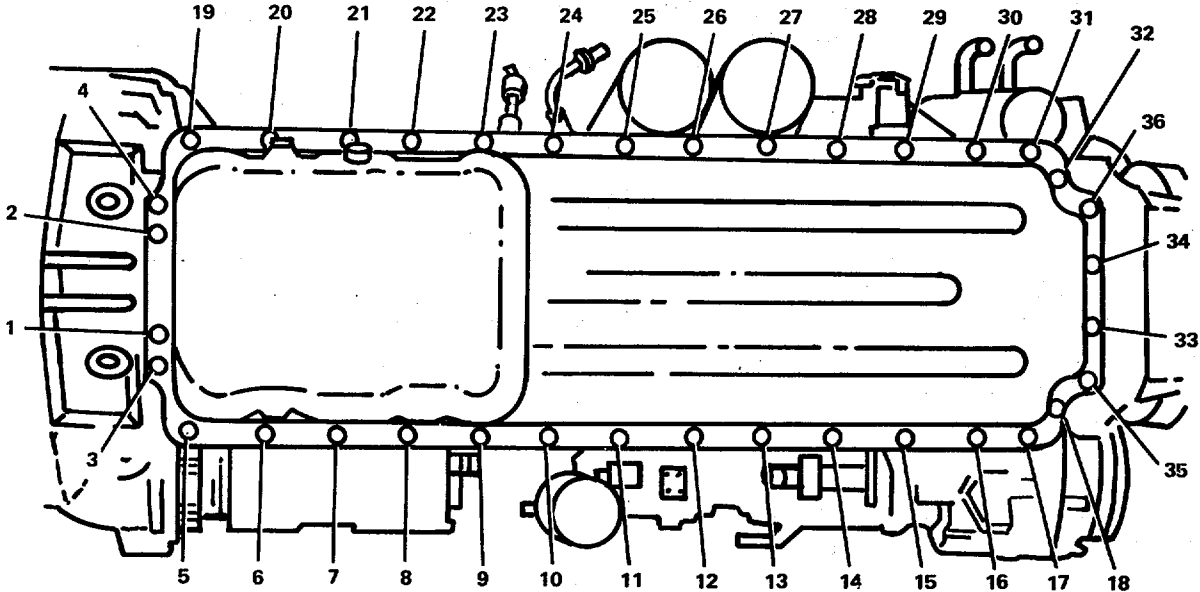

FIGURE 3-53. Oil Pan Capscrew Torque Sequence.
- u. Tighten the four 5/16 inch capscrews in the rear of the oil pan to 20 ft-lb torque in the sequence shown (FIGURE 3-53).
- v. Tighten the thirty-two 7/16 inch capscrews to 50 ft-lb torque in the sequence shown (FIGURE 3-53).